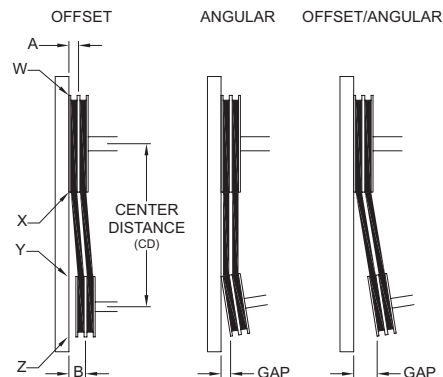
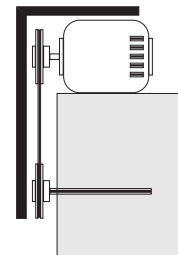

Figure 2
Figure 3
- Ensure pulleys are properly aligned. Refer to *Figure 2*.
Figure 2 indicates where to measure the allowable gap for the drive alignment tolerance. All contact points (indicated by WXYZ) are to have a gap less than the tolerance shown in the table. When the pulleys are not the same width, the allowable gap must be adjusted by half of the difference in width. *Figure 3* illustrates using a carpenter's square to adjust the position of the motor pulley until the belt is parallel to the longer leg of the square.